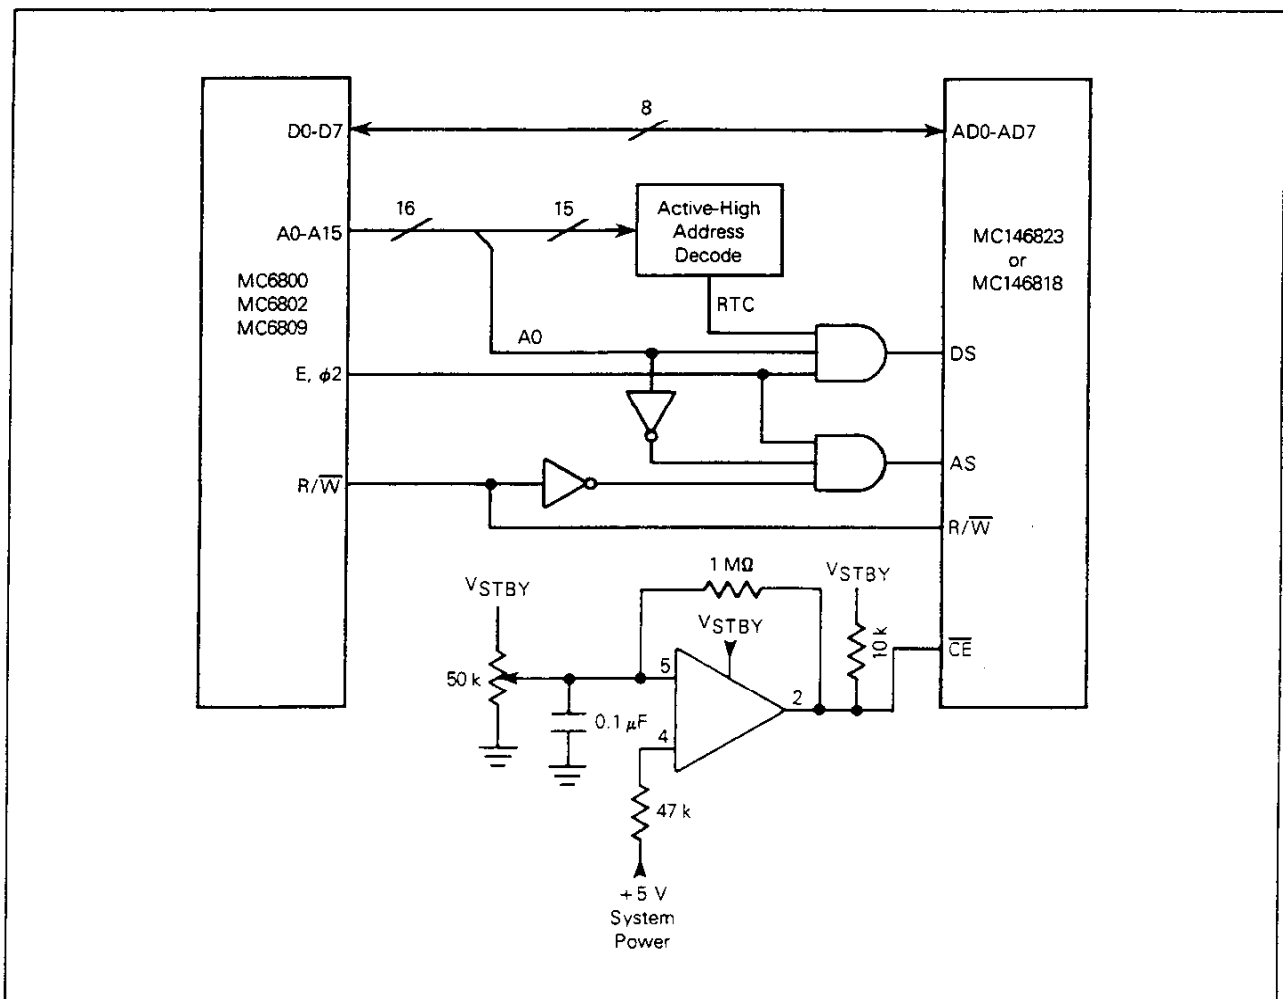

FIGURE 1 — MC146818/MC146823 and Motorola MPU Non-Multiplexed Bus Interface Schematic Diagram
Another method, for allowing a non-multiplexed bus MPU to read or write multiplexed bus peripherals, is to consider the multiplexed bus as a two-register device. One register could be the address latch and the other could be the data register. By connecting the non-multiplexed bus to the multiplexed bus, as shown in Figure 1, the address strobe (AS) is generated by any MPU write to an even address (A0 is low). Although AS causes the state of the multiplexed pins to be captured in the address latch, no data is transferred until the data strobe (DS, \overline{RD} , or \overline{WR}) is generated. The data strobe is not generated until a specific decoded, odd address occurs; i.e., A0 is high. Thus, a valid access can only be made by first writing to the location (\$00-\$3F) of the byte to be accessed at an even address, and then by either reading from or writing to the decoded odd address. The software subroutine required to generate the address strobe (AS) and data strobe (DS) signals for the interface shown in Figure 1 is listed in Figure 2. The location to be accessed is contained in accumulator A and data is transferred via accumulator B. The following example clears register A (location \$0A) and then reads the data at location \$25.
The schematic diagram shown in Figure 1 provides an interface between Motorola devices: MC6800/MC6802/MC6809 MPU interfaced with an MC146818 Real Time Clock or MC146823 CMOS Parallel Interface. Since both the MC146818 and the MC146823 are implemented with the Motorola MOTEL circuit (for MOTorola and IntEL bus compatibility), they can be interfaced with either of the two most common multiplexed bus structures. The hardware required for interfacing a competitor's non-multiplexed MPU with either the MC146818 or MC146823 is shown in Figure 3.
down is different for each device. Also, on both devices \overline{CE} is used to isolate the device from the bus except as follows: (1) when AS is high on the MC146823 and (2) on the MC146818 \overline{CE} must be valid before the falling edge of AS. For these reasons, the comparator circuit shown in Figures 1 and 3, is used to provide CE. One input to the comparator is connected to the +5 V system power source. The other comparator input is connected to a reference voltage (assume +4 V). The battery backup voltage, used to provide the reference source, should approximate the system +5 V supply. When the system voltage falls below the reference level, the comparator toggles and deselects the MC146818 (\overline{CE} goes high). This isolates the RTC from the bus. The comparator toggling action precludes spurious writes to the MC146818 RAM or other registers during the time between system power loss and trigger output. The comparator configuration shown provides some hysteresis. This ensures that there is no input voltage which would cause a bouncing effect at the \overline{CE} pin.